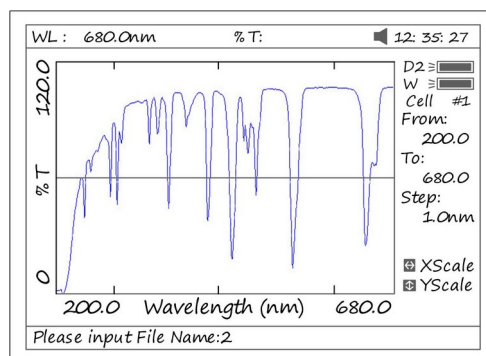

Fig 15
- Name the curve by pressing the numeric keypad (Fig 15), press the key [ENTER] to confirm.